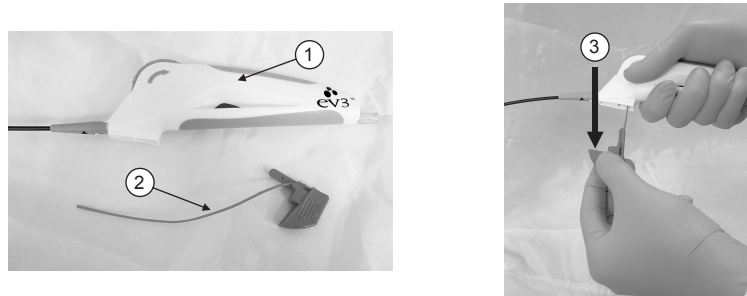

Figure 2. Entrust delivery system with safety locking pin and tube assembly
- Completely remove the safety locking pin and tube assembly from the handle, as depicted in **Figure 2**. If the safety locking pin and tube assembly are not removed, the EverFlex stent may partially deploy, fail to deploy, or deploy with increased deployment force.
Caution: Completely remove the safety locking pin and tube assembly (2) from the handle (1), as depicted in **Figure 2**. If the safety locking pin and tube assembly are not removed, the EverFlex stent may partially deploy, fail to deploy, or deploy with increased deployment force.
5. Initiate stent deployment by holding the handle in a fixed position and slowly rotating the thumbwheel in the direction indicated by the arrow on the handle, see **Figure 2**.